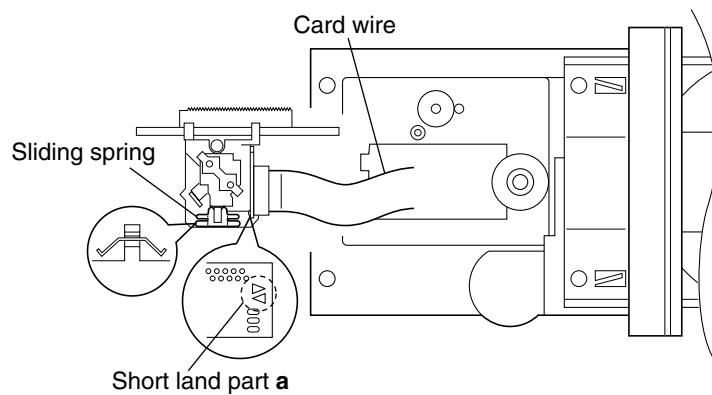

Fig.11
8. Turn the CD pickup unit upside down and apply solder to the short land part **a**. (See Fig.11.)
9. Disconnect the card wire from the CD pickup unit and replace the unit. (See Fig.11.)
[Cautions] · Be sure to solder the short land part **a** on the CD pickup unit before disconnecting the card wire from the CD pickup unit. (See Fig. 11.) If the card wire is disconnected without attaching solder, the CD pickup may be destroyed by static electricity.
(See Fig. 11.)